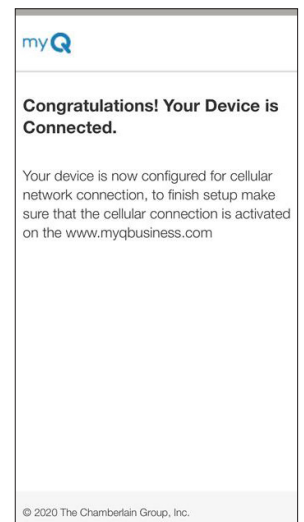

Figure 5
7. When connected properly, a congratulation message indicates that your device is connected. The LED next to the blue power LED will be solid on the CAPAC housing. Follow directions to troubleshoot issues if needed. (See Figure 5)